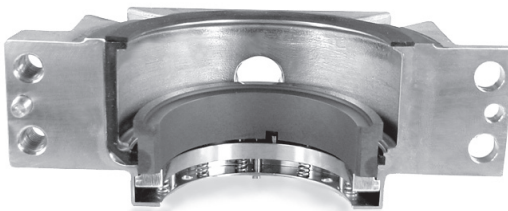

Figure 29
10.2 With the gland sitting on the bench, set the stationary face on the spring holder as shown in Figure 29.